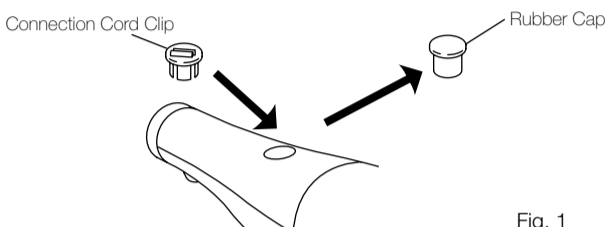

Fig. 1
- ① Remove the Rubber Cap on the backside of motor handpiece body with slotted bit screw driver and insert the Connection Cord Clip. (Fig.1)